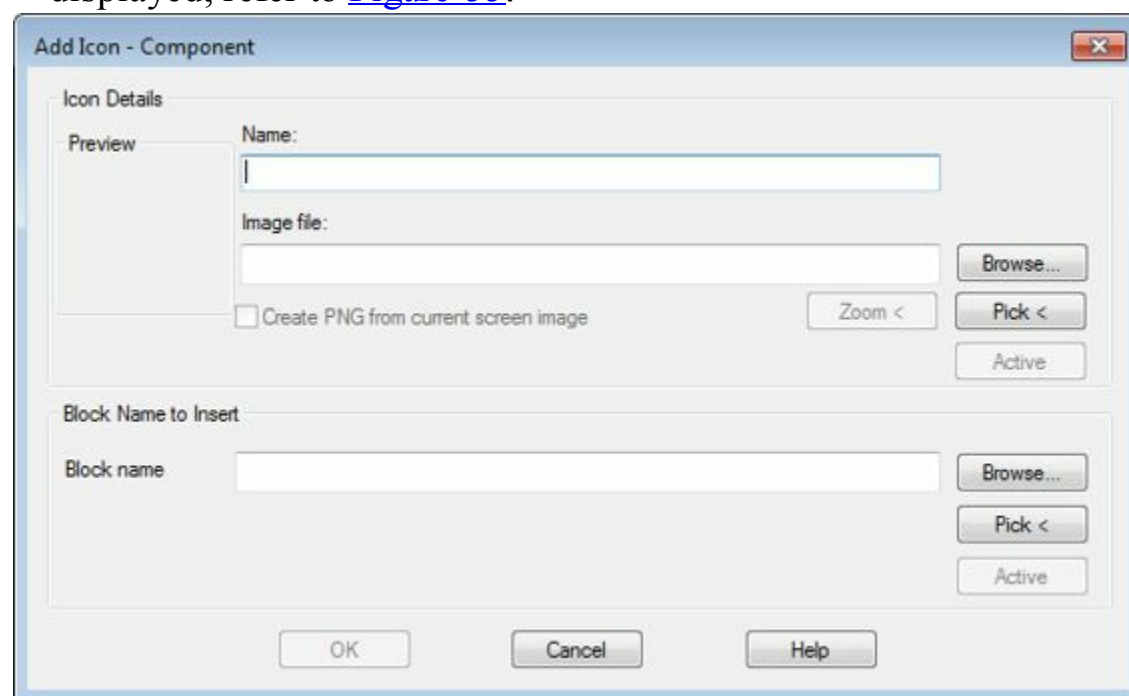

Figure-55. Add Icon-Component dialog box
- Click on the **Component** option from the menu. The **Add Icon-Component** dialog box will be displayed; refer to Figure-55.